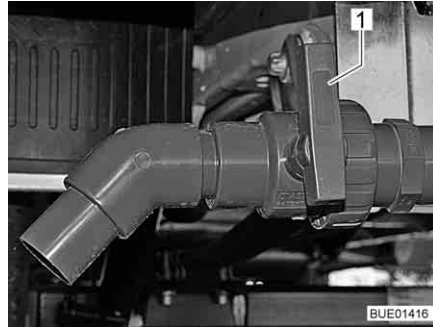

Fig. 182 Drain cock (outside)
- Turn the handle (Fig. 181,1 or Fig. 182,1) of the drain cock in flow direction. This drains the waste water through a spherical valve.